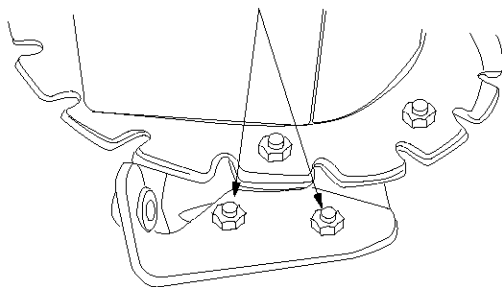

Figure 9
3. To align the spiral on the chute crank, it may be necessary to loosen the carriage bolts and hex lock nuts which secure the lower chute crank bracket to the extension on the left side of the chute assembly. See Figure 9.